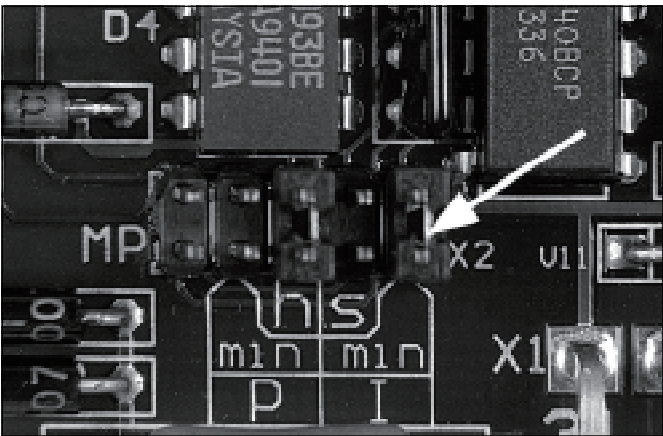

Fig. 7 - Preselection of the time range
- The time ranges can be modified by replugging the jumper (Fig. 7) on the printed circuit board.